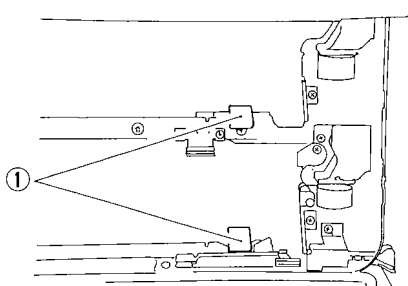

Figure 4-323
- ① shown in Figure 4-323 butts against the upper stay ② when the plunger of the solenoid is pushed in.